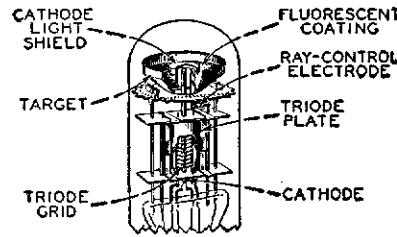

Fig. 64
Electron-ray tubes are designed to indicate visually by means of a fluorescent target the effects of a change in controlling voltage. One application of them is as tuning indicators in radio receivers. Types such as the 6U5, 6E5, and the 6AB5/6N5 contain two main parts: (1) a triode which operates as a dc amplifier and (2) an electron-ray indicator which is located in the bulb as shown in Fig. 64. The target is operated at a positive voltage and, therefore, attracts electrons from the cathode. When the electrons strike the target they produce a glow on the fluorescent coating of the target. Under these conditions,